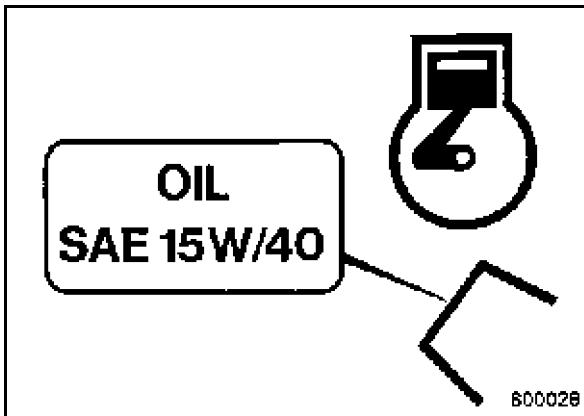

Fig. 46
- Fill in new engine oil (Fig. 46).